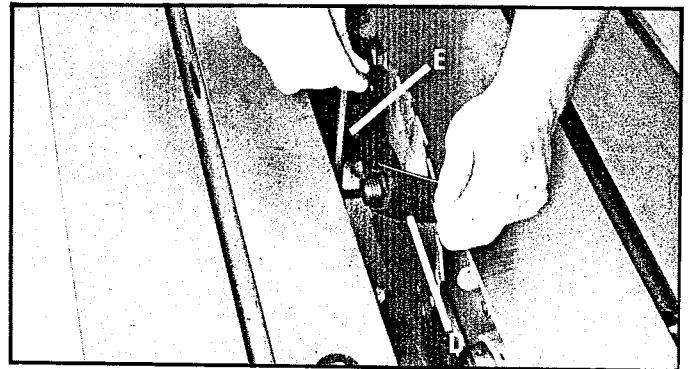

Fig. 9
3. Tighten arbor nut with wrench (D) while holding arbor with allen wrench (E) inserted into end of arbor, as shown in Fig. 9.